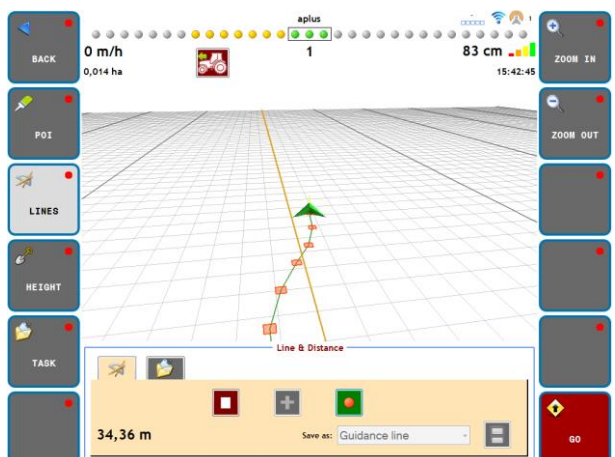

Figure 56 Automatic recording of curves.
3. Tap on the  button to record a curve automatically if a curve is needed in the line. Tap on the button again to stop continuous recording (Figure 56).